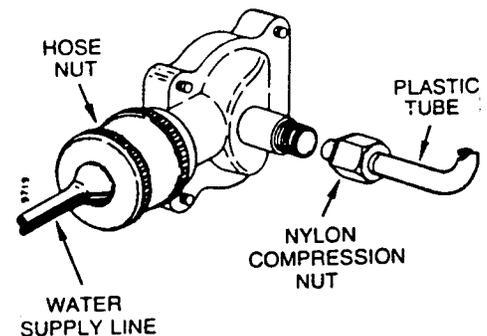

Figure 13 Tubing connections to water valve
5. Slide the nylon compression nut onto the curved end of the plastic feeder tube (see figure 13).